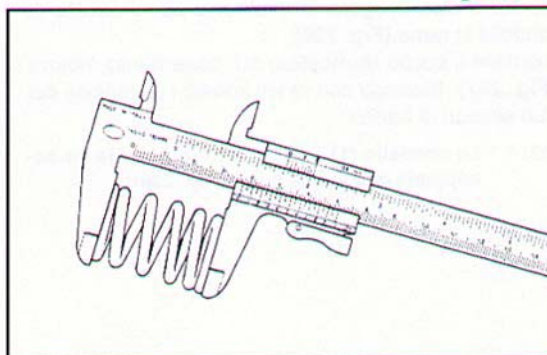

Fig. 241 ▲
- set a zeroed, depth dial gauge on one plane, with the probe in the pump cover seat and read depth of the latter with respect to the support plane of the oil control unit (Figs. 241 and 242);